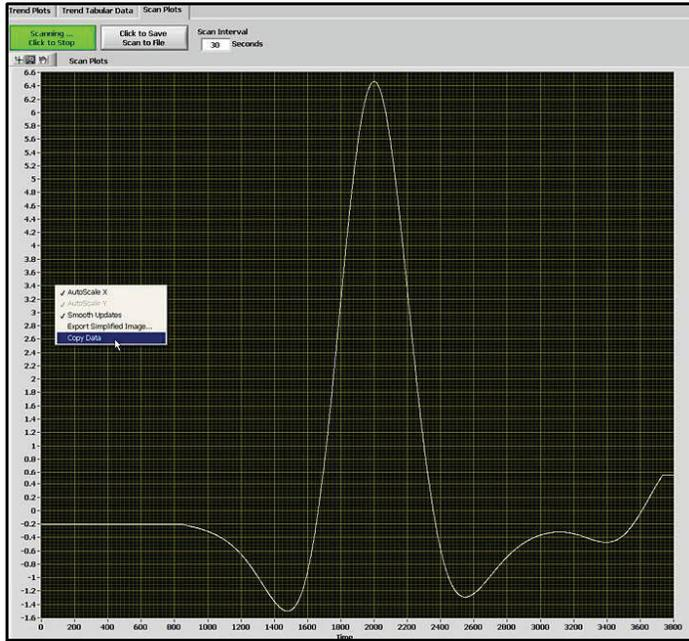
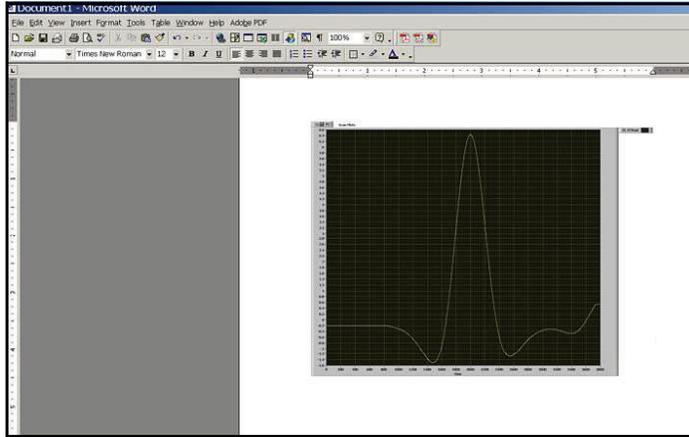

Figure 46: Copying a trend plot
Figure 47: Pasting a trend plot
- Copying and Pasting a Trend Plot can be done from **AuroraView** (see *Figure 46* and *Figure 47* below) One way to do this quickly is to simply right click over the data area and choose Copy. In another application, like Microsoft Word, simply paste.